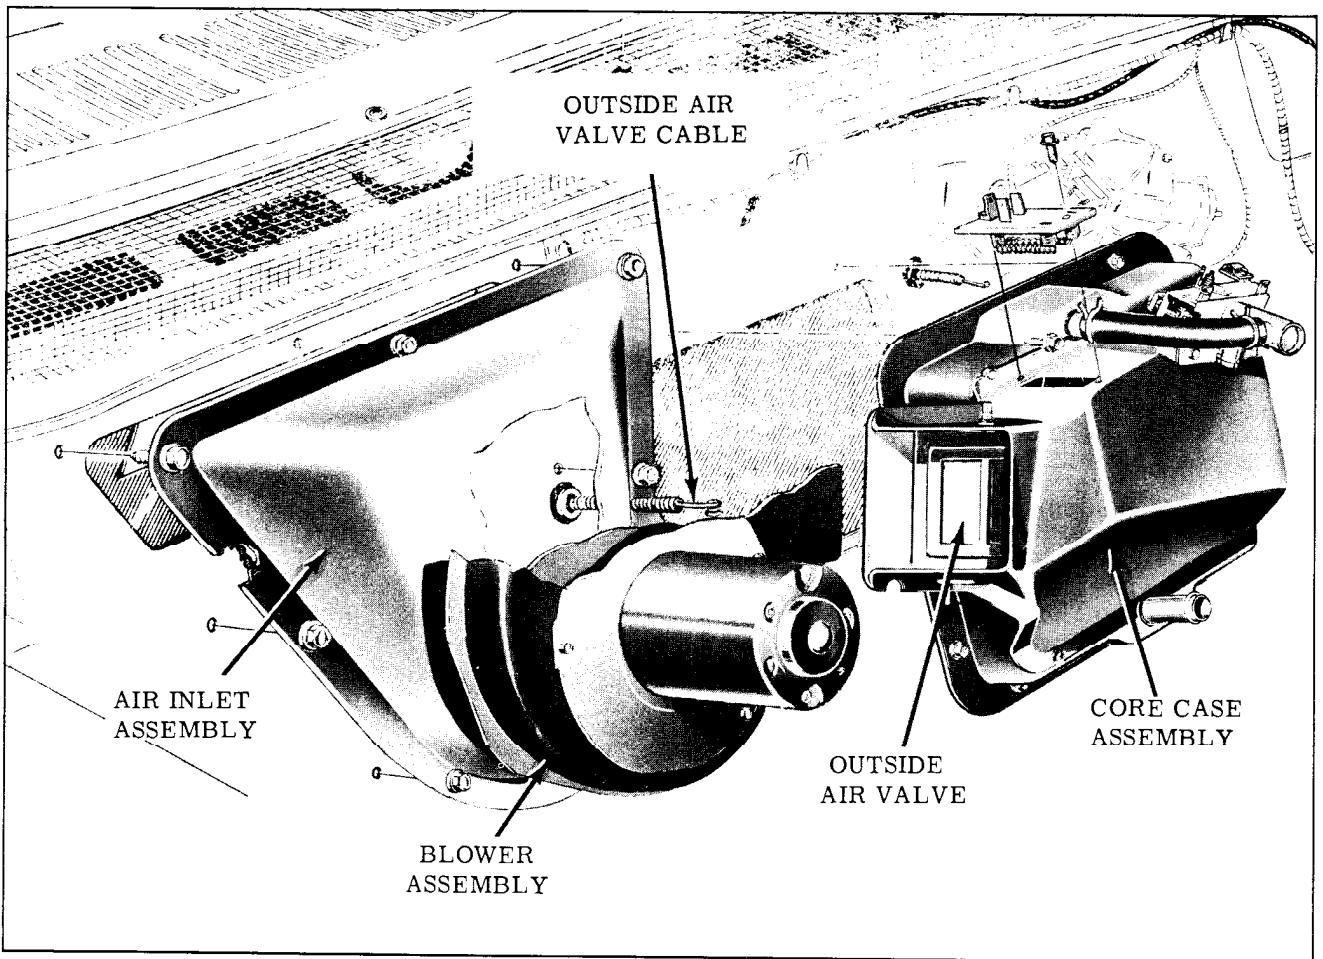

Fig. 14-7 Blower, Duct, & Core Assembly
4. Remove the 8 heater inlet to cowl attaching nuts and washers, disconnect air inlet door cable, and remove heater inlet and core. (Fig. 14-7)
The heater blower and motor can be removed by removing the 5 attaching screws. (Fig. 14-7) The blower is held onto the motor shaft by a nut threaded on the end of the shaft.